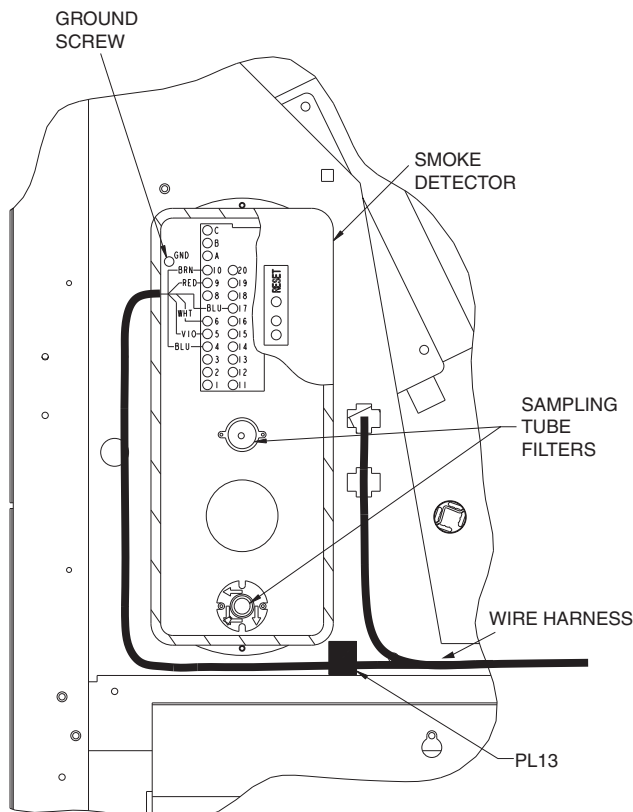

Fig. 3 — Smoke Detector Wiring Connections
6. Insert stripped ends of wire harness through knockout and wire to smoke detector as shown in Fig. 3. Use ground screw in the smoke detector to secure a wire tie. Use wire tie to provide strain relief for the wire harness.
17. Connect harness PL13 as shown in Fig. 3.
16. Connect harness PL13 as shown on Fig. 3.